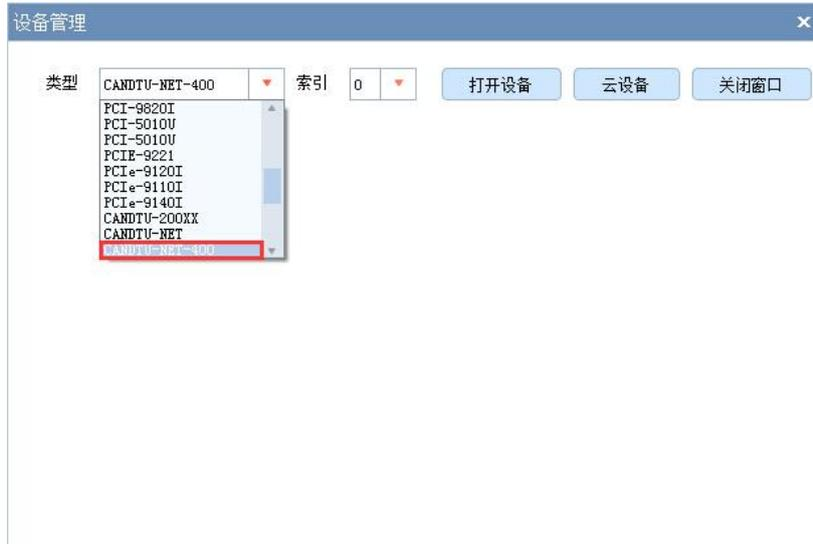

Figure 4.26 Device selection
- 1) Start the ZCANPRO host computer software, and select the "CANDTU-NET-400" item, as shown in Figure 4.26.